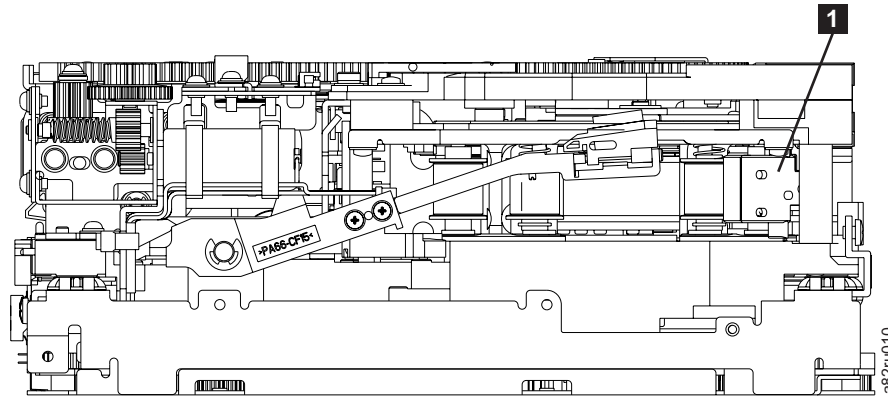

Figure F-16. Leader Block Assembly (LBA)
9. Rotate the threader motor worm gear (**4** in Figure F-15 on page F-14) to turn the threader mechanism gear (**6** in Figure F-15 on page F-14) counterclockwise. This moves the LBA out of the cartridge and past the read/write head. Stop this rotation when the LBA is near the tape guide roller nearest the rear of the drive shown as **1** Figure F-16.